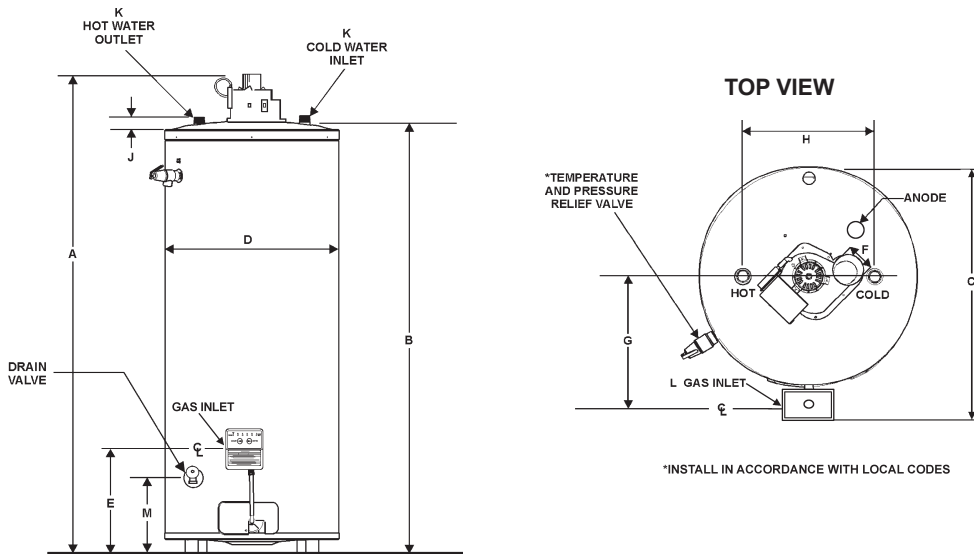

FIGURE 2.
5. Carefully plan the place where you are going to put the water heater. Correct combustion, vent action, and vent pipe installation are very important in preventing death from possible carbon monoxide poisoning and fires, see Figure 1. and Figure 2.